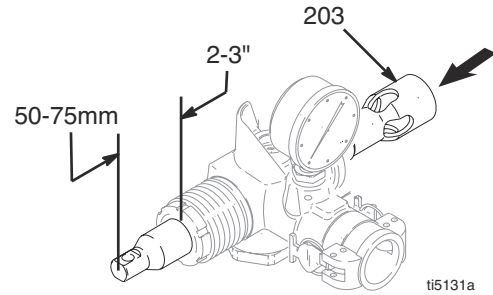

FIG. 14
5. Fig. 14. Remove packing nut (216). Push piston rod (203) from outlet housing (202).